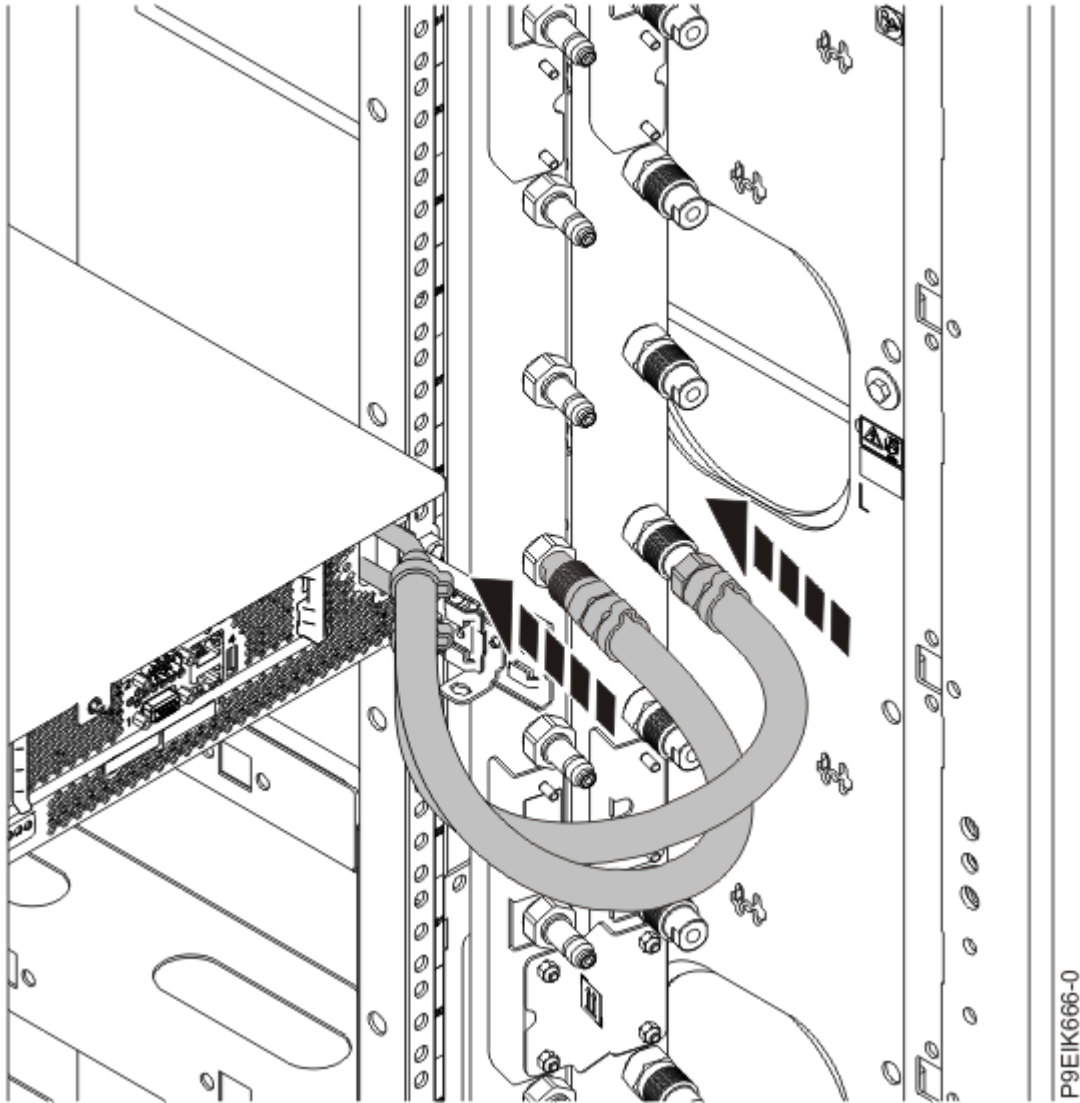

Figure 188. Reconnecting the water hoses
4. Reconnect the water hoses at the rear of the rack, as shown in Figure 188 on page 206.